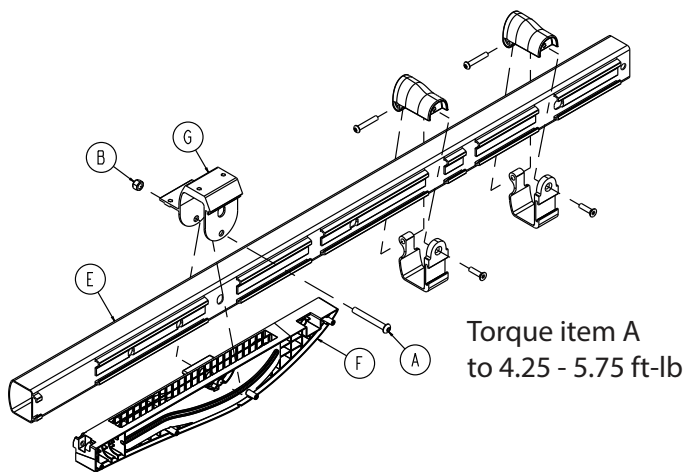

Figure 103 – Remove the slider block
8. Using a T30 Torx driver and a 1/2" combination wrench, remove the button head cap screw (A) that secures the patient left slider block (F) to the outer rail (E) (Figure 103). Save the screw and slider block.